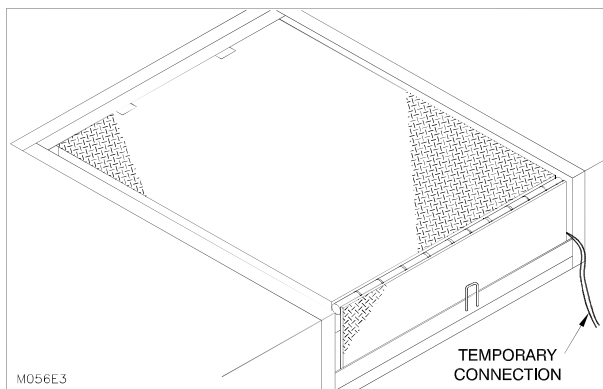

Figure 7: Accessible Temporary Wire
Note: Assure temporary wire is accessible through front of dock leveler. (“Figure 7: Accessible Temporary Wire” on page 10)
4. Raise dock leveler by connecting the temporary wire from power supply to temporary wire supplied with dock leveler. (“Figure 7: Accessible Temporary Wire” on page 10)
11. Connect the temporary wire from the power supply to the temporary wire supplied with the dock leveler. ("Figure 7: Accessible Temporary Wire" on page 10)